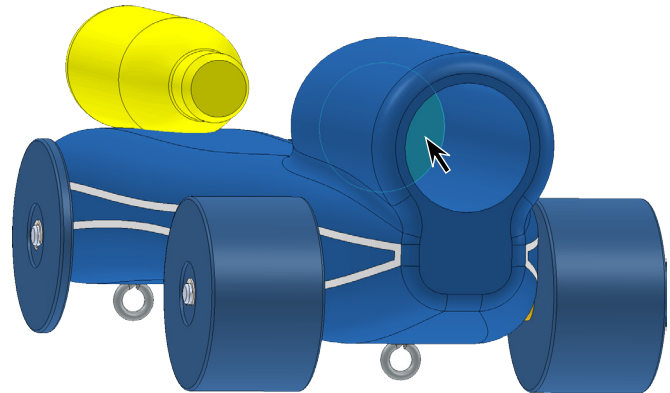

Fig. 21
Step 4. Click **bottom face of cartridge hole**, Fig. 21.